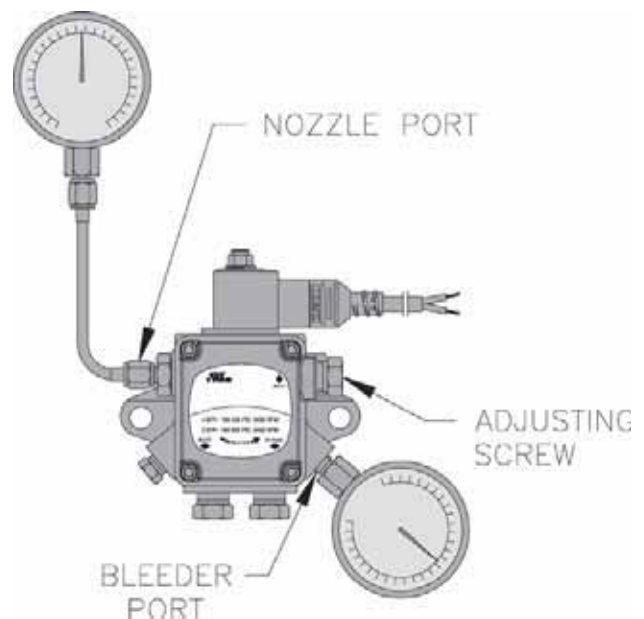

Figure 46: Checking/Adjusting Fuel Pump Pressure
- b. Either, remove plastic hose and oil pump vent fitting, then, install a reliable pressure gauge into vent fitting port, or, install the gauge into the nozzle port. See Figure 46.